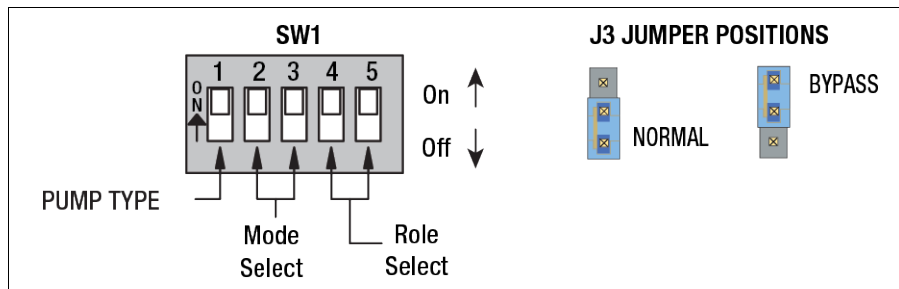

Figure 11. Dip Switch SW1 and Bypass Jumper J3
2. Place the Bypass Jumper in the Bypass Position (Figure 11)
3. Set the five Motor Type Programming DIP switches (Figure 11) to the positions indicated in Table 5 for your Motor Type.
10. The unit must be calibrated every time the Motor Type programming is performed even if the Motor Type does not change. Set the five DIP switches to the desired pump type and mode / role select configuration (see Figure 11). NOTE: The unit will not calibrate if a Motor Type has not been programmed.
Each controller must have its duty established through the dip switch bank labeled SW1 on the circuit board (Figure 11).